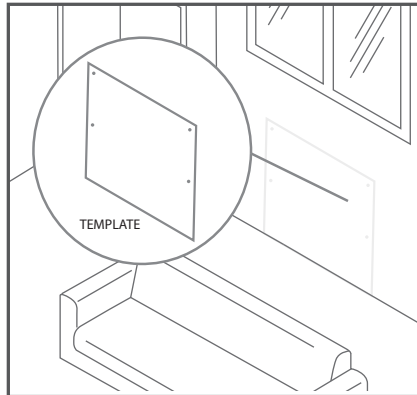

fig. 2
**2.** Using the template, use a pencil to mark the position of the 4 holes indicated for your model of radiator. Drill 4 holes in the wall with a diameter of 10mm and a depth of 50-55mm (fig. 2)